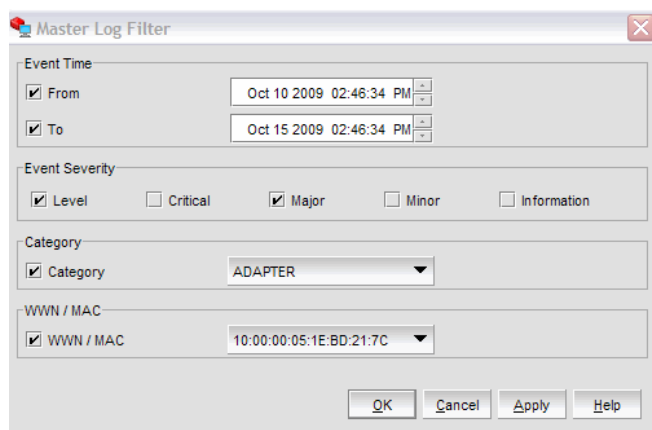

FIGURE 18 Master Log Filter dialog box
You can filter the events based on the user-defined criteria shown in Figure 18.
2. Filter the events using one or a combination of the criteria shown in Figure 18.